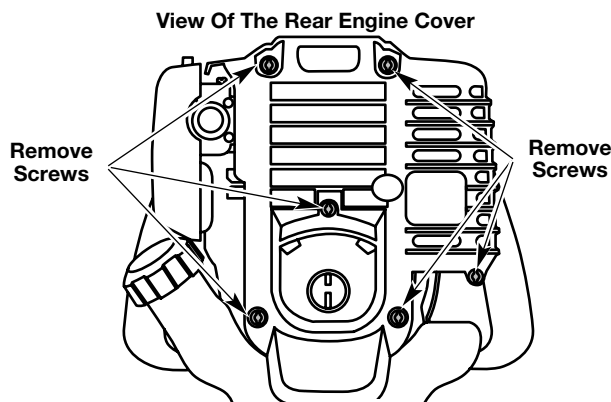

Fig. 52
1. Remove the six (6) screws on the back of the engine cover with a Flat-head or T-25 Torx screwdriver (Fig. 52).
4. Remove the engine cover (Fig. 52).
1. Stop the engine and allow it to cool. Remove the six (6) screws on the back of the engine cover with a Flat-head or T-25 Torx screwdriver (Fig. 52).